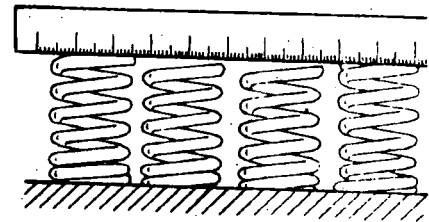

Fig. 7
b) Check the free height of the springs (fig. 7).